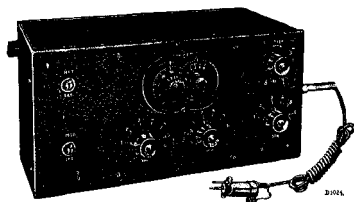

Fig. 3
1. Een service-oscillator, 4028C of G.M. 2880 (fig. 3).